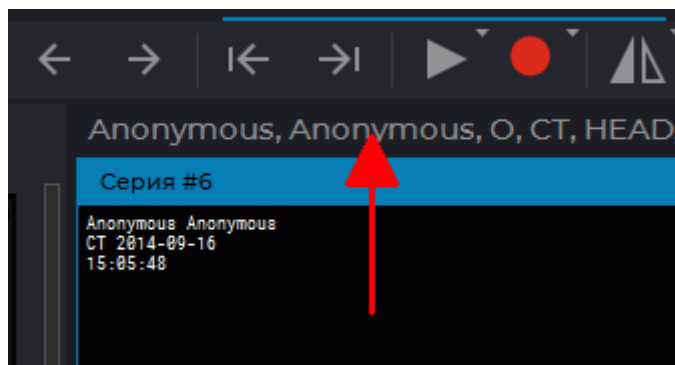

Figure 2.2: The window header is marked by the arrow
2. Select the study view window by clicking the left mouse button on the window header (marked by the arrow in Fig. 2.2).